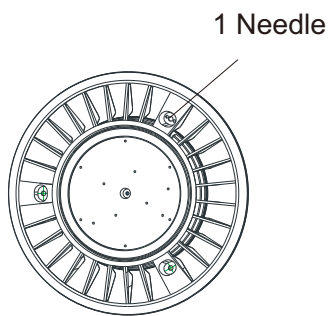

Figure1
1. Find the power cord hole (Figure 1)